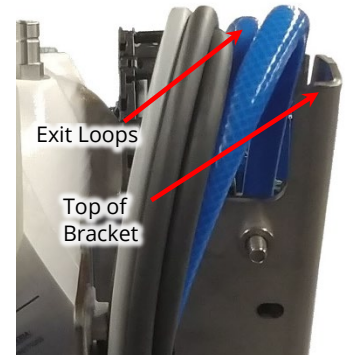

Figure 18: Seakeeper guide band hoses and cables
- a. **VERIFY** exit loops of IGUS chain are at least $\frac{3}{4}$ in. above back of sheet metal bracket (Fig. 18).